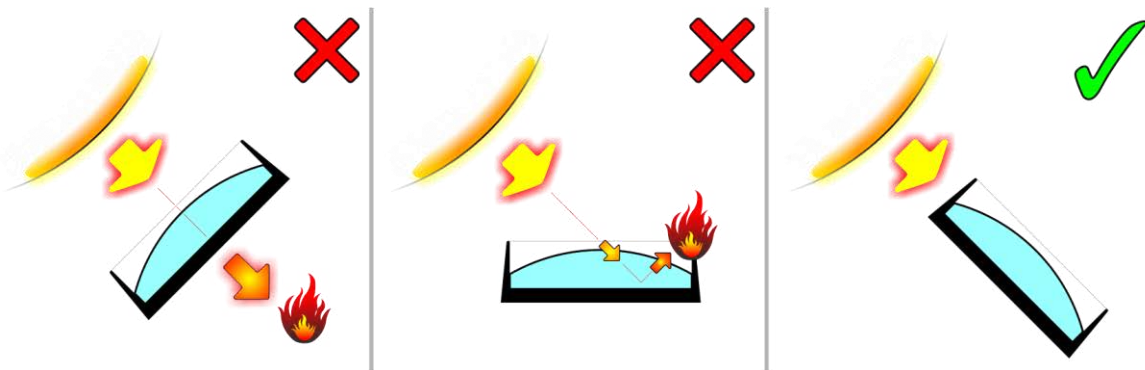

Figure 1. Avoiding damage from light sources
- Damage can occur whether the fixture is powered on or off. See Figure 1. Damage can also occur if the light hits the front of the fixture at an angle: the fixture does not need to be pointing *directly* at the sun or other light source.